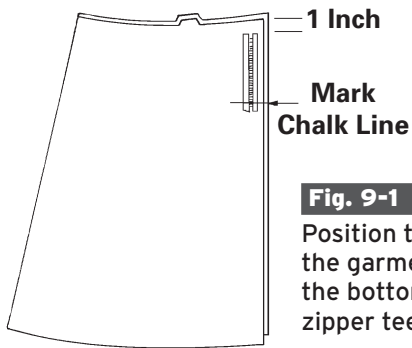

Fig. 9-1
1. With the top edges even and right sides together, pin the seam that will hold the zipper. With the wrong side up, place the zipper along the seam allowance. Position the top of the zipper teeth 1 inch (2.5 cm) from the top edge, and measure the length for the zipper opening. Use chalk to mark the bottom location of the zipper teeth on the seam allowance. (Fig. 9-1)